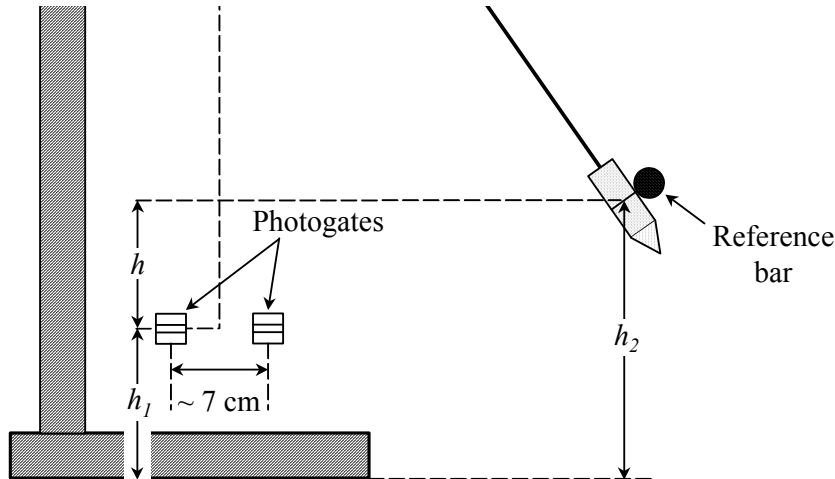

Fig. 2. The maximum speed can be obtained by measuring the time it takes the bob to travel about 7 cm at the pendulum's equilibrium position.
The total energy, i.e. the sum of potential and kinetic energy, should be a *constant*. On the other hand, both kinetic and potential energies change with time. To check the conversion of potential energy into kinetic energy, we want to measure the maximum speed v_{\max} of the bob as it passes through the equilibrium position (see Fig. 2). Conservation of energy requires that:
3. If you use a sufficiently large amplitude (large L and θ), you may assume that the *average speed* between the photogates (which is what you measure) is the same as the *maximum speed* that you need in Eq. (9).
4. Set the photogate timer to pulse mode. Look at the diagram in Fig. 2. Measure the height h_1 of the bob at equilibrium with the meter stick and write the value in Table 3-2. Make sure the photogate timers are aligned the same way. **Be very careful to not let the bob hit anything!**
5. Perform this measurement with the bob released from three widely varying heights h_2 (approximately equally spaced between limits of 25 - 55 cm). (Use of the reference bar shown in Fig. 2 may not be necessary). Use a meter stick to measure the height h_2 each time you released the bob. Write this value down in Table 3-2. Do this three times for each height h_2 and write the time difference Δt in Table 3-2.